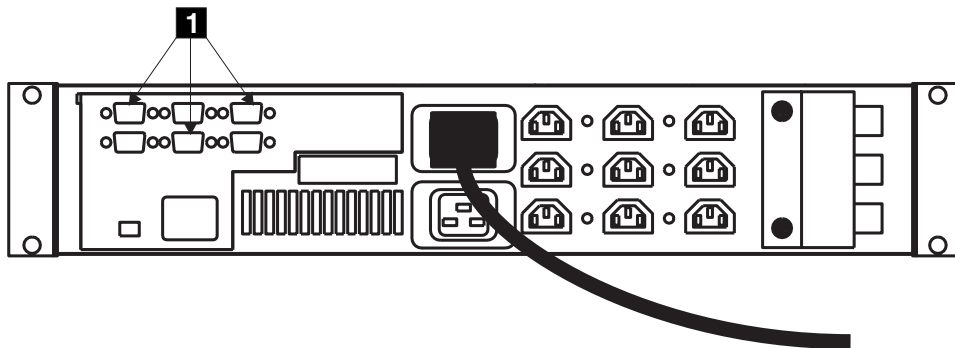

Figure 270. Connecting the 2145 UPS signal cables
4. At the back of the 2145 UPS, connect the signal cables (1 in Figure 270).